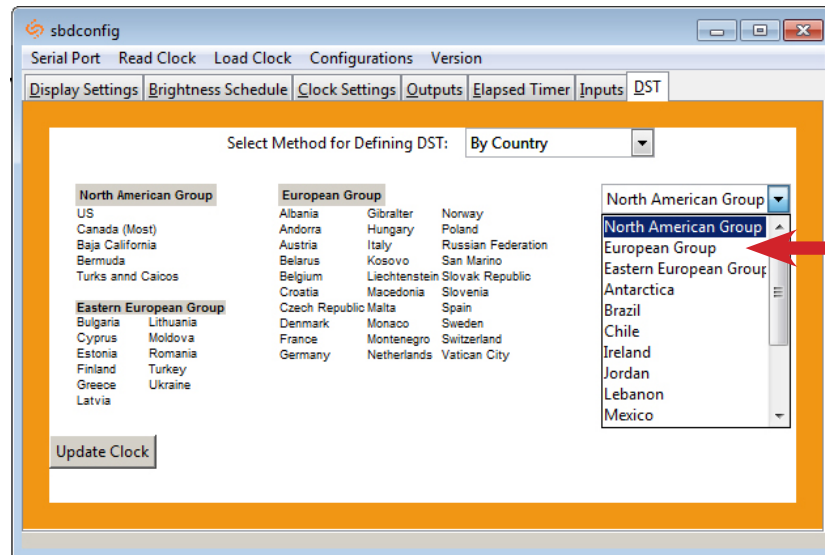

Fig. 6
- **By Country:** When this option is selected, Daylight Saving Time can be chosen by country. For example, Daylight Saving Time can be selected to follow the DST rules established in the United States. (Fig. 6)